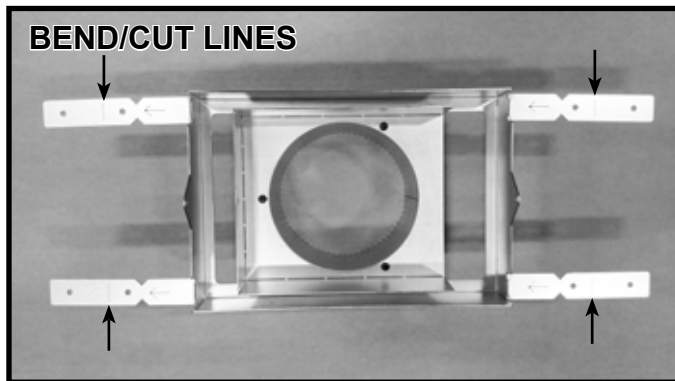

Figure 8.8 Bend/Cut Line Locations - Shown Unpainted
5. Locate the Open Top Discharge bend lines on the nailing tabs of the discharge assemblies. See Figure 8.8.